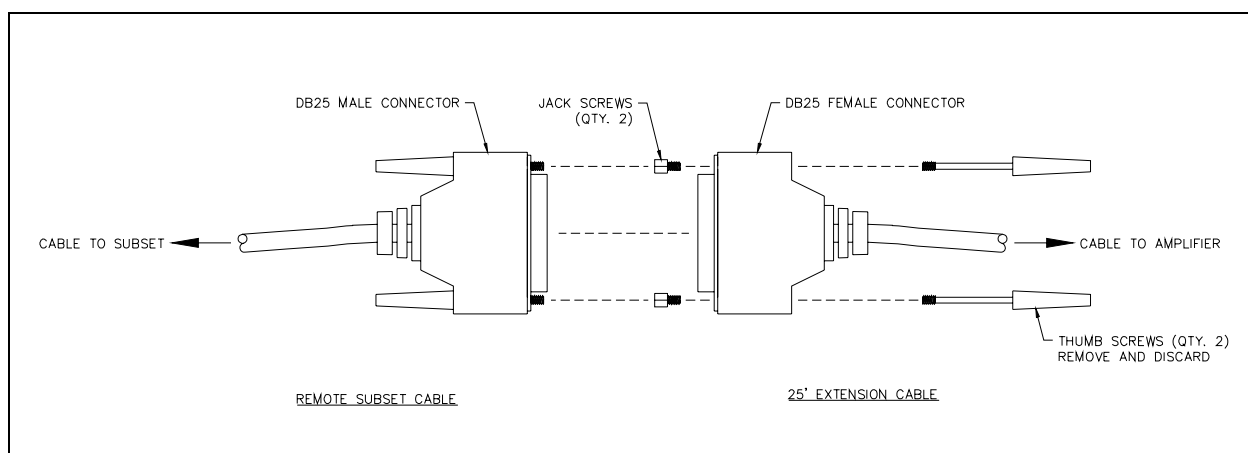

Figure 2. Installation as a Subset Extension
1. Arrange the extension cable so that the DB25 male connector is connected at the amplifier enclosure or wall receptacle. Remove the thumb screws from the DB25 female connector. Install the two jack screws provided. See Figure 2.